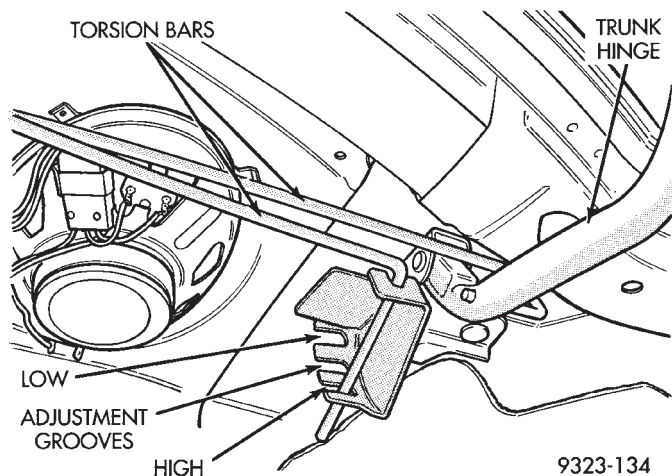

Fig. 75 Trunk Lid Torsion Bars
(3) Using a vise grip plier locked on the end of the torsion bar, release torsion bar from adjustment groove on hinge (Fig. 75).
(4) Disengage torsion bar from hinge on opposite side of vehicle.
(5) Separate torsion bar from vehicle.